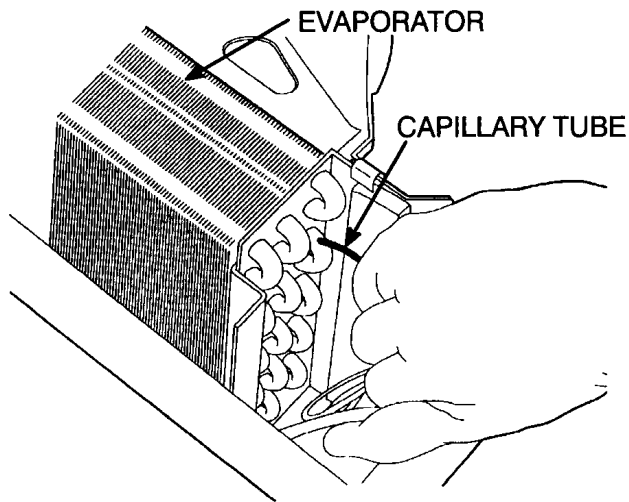

Figure 22 Thermostatic Switch Capillary Tube
5. Carefully remove the switch. As the switch is being removed, slide the capillary tube out of the evaporator (Figure 22).
1. Insert the capillary tube into the same hole in the evaporator that it was removed from (Figure 22), until the pencil mark is at the edge of the evaporator. NOTE: If the capillary tube is being installed into a new evaporator, carefully insert it into the same area that was used on the old evaporator.